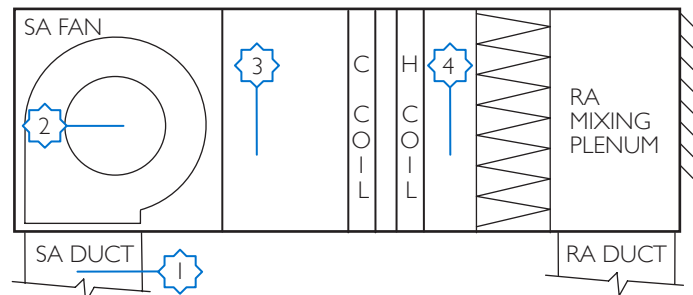

FIGURE 1 – SUGGESTED MOUNTING LOCATIONS IN TYPICAL AHU
3. The units can either be installed inside an air handling unit or in the supply air ductwork. See figure 1 for acceptable mounting locations. For mounting location two in Figure 1, the ionizer would be mounted adjacent to the fan inlet.